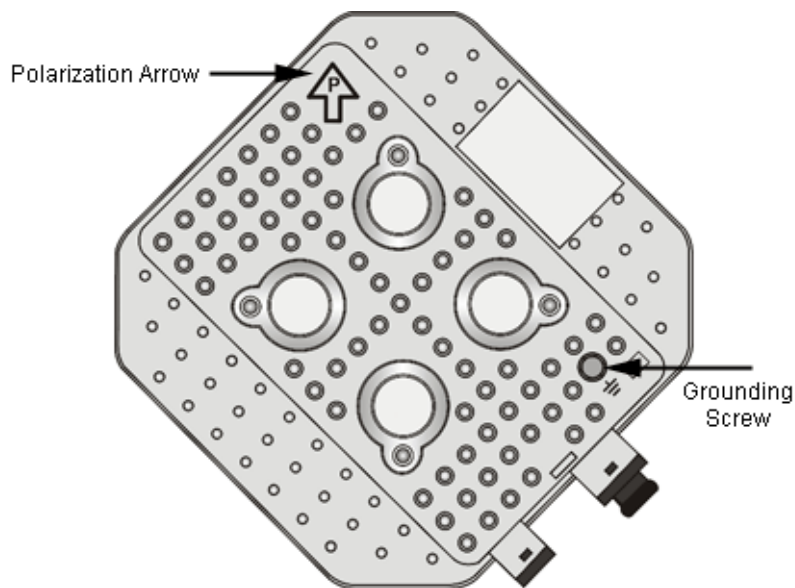

Figure 6-7: PRO CPE ODU Grounding Point
- 1 Connect the grounding cable to the grounding screw (marked \perp) located on the rear panel of the ODU and firmly tighten the grounding screw (see Figure 6-7). Apply torque 6.4 [N*m] (55.3 [lbs*in]).